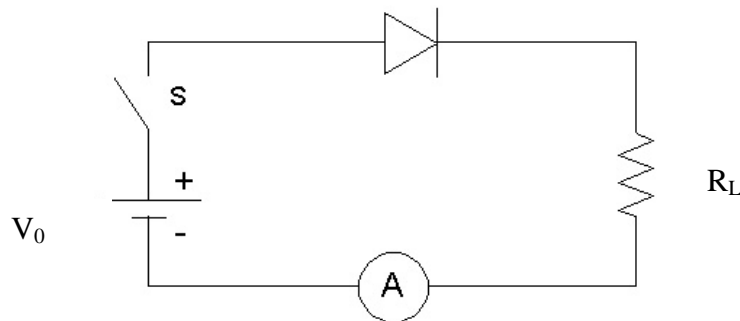

Figure 11: Circuit for first part of the experiment.
1. Set up the circuit shown in figure 11. The “load resistor”, R_L , is used to limit the total amount of current flowing through the diode so that it is not damaged; use a 51Ω resistor for R_L . V_0 is the power supply and A is the multimeter used as an ammeter (remember to use the ‘DC’ setting, and plug in to the appropriate terminals).